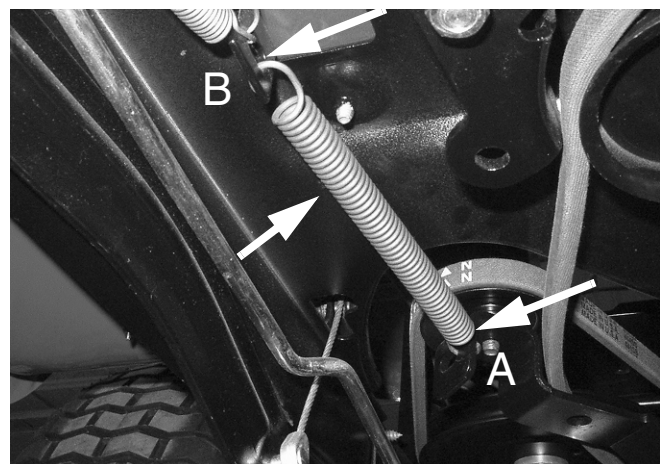

FIGURE 2
3. Refer to Figure 2. From the underside of the rider, disconnect the extension spring, 732-0384, that provides upper transmission belt idler tension, from the hook on the lower frame and the transmission's upper belt tensioning idler. Discard the spring.
18. Slip the Split Plastic Conduit, Item 6, onto the new Extension Spring, Item 9. Install the new spring as shown in Figure 2.